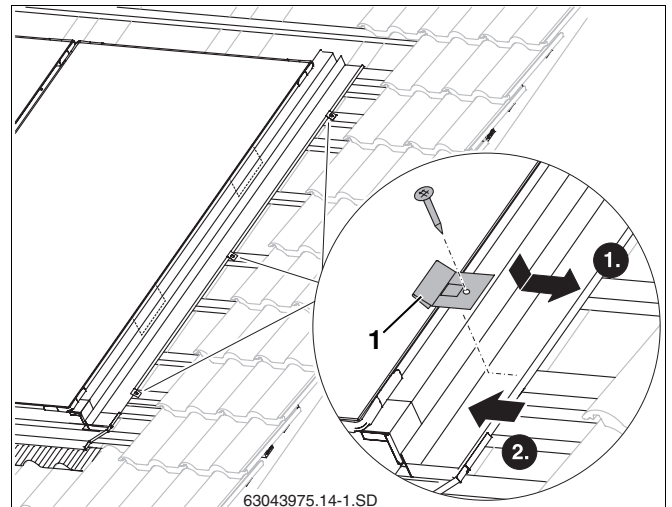

Fig. 50 Securing side facing collector
- Insert clip (Fig. 50, **Item 1**) into the edge of the side facing collector.